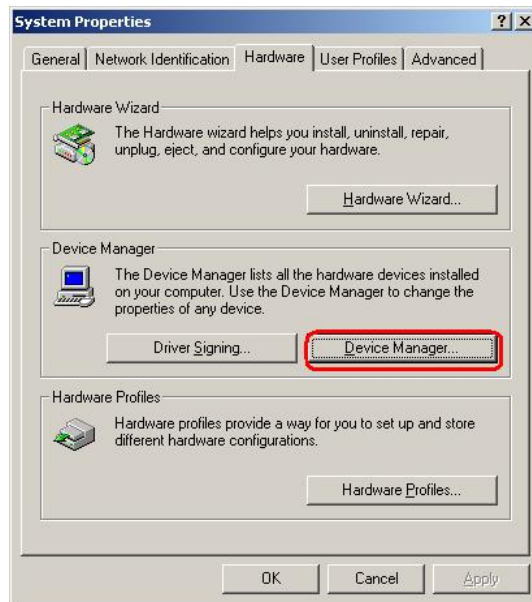

Figure 7-27: Double Click the Device Manager Tab
Step 14: Double click the **Device Manager** tab (Figure 7-27).